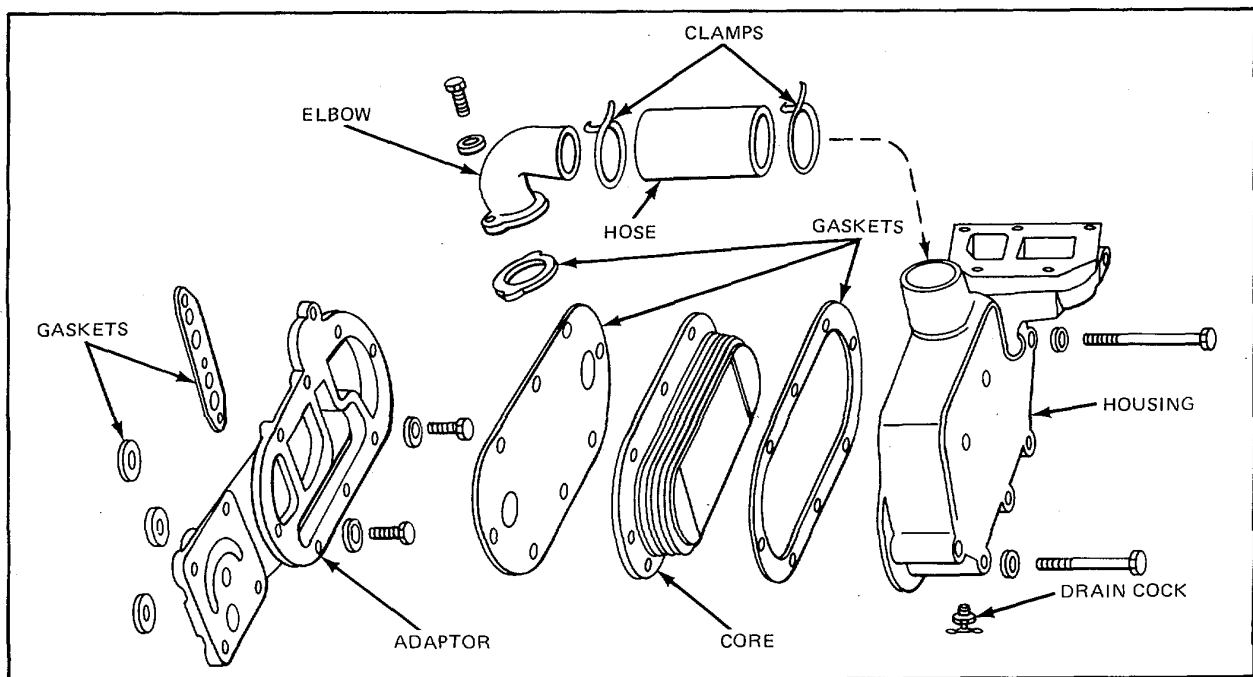

Figure 2. Oil Cooler Details and Relative Location of Parts
2. Clean the old gasket material from both faces of the core flange and affix new gaskets to the inner and outer faces (Fig. 2). Insert the core into the cooler housing.